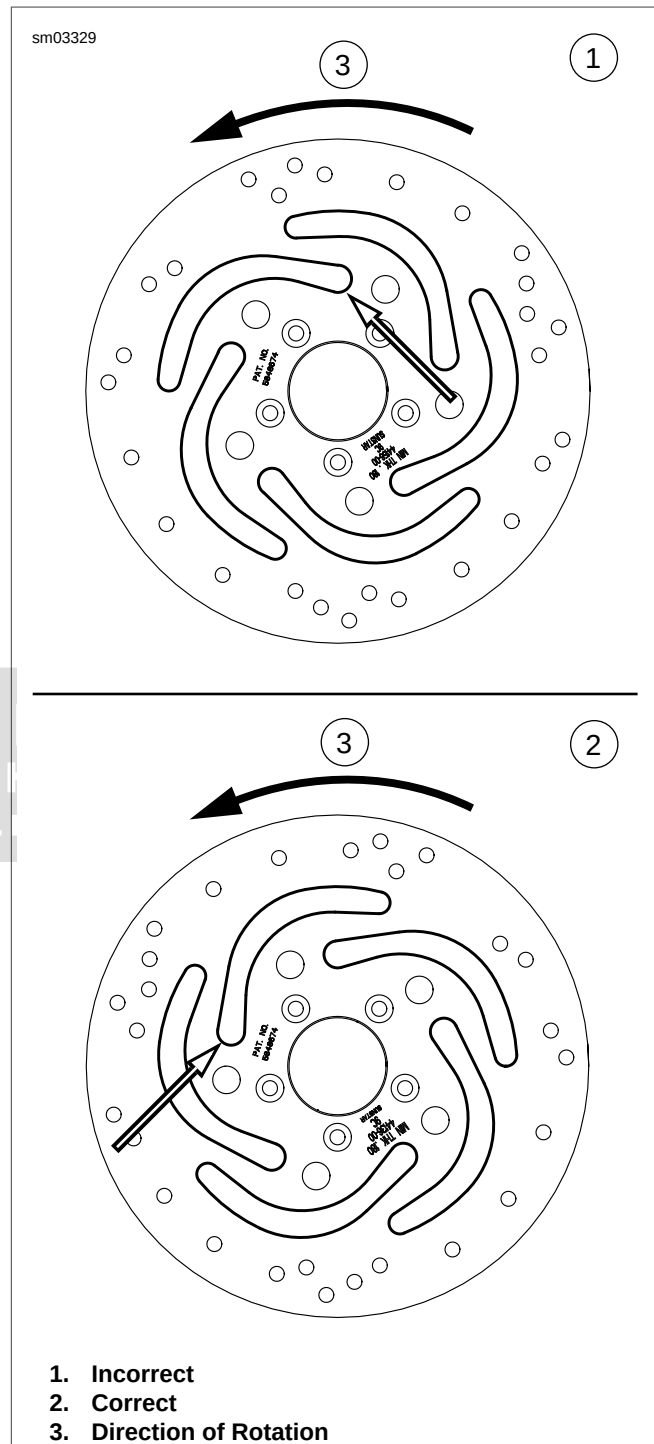

Figure 2-7. Dual Rotor Orientation: XL Models (Left Side Brake Disc Shown)
- a. Install hub plate (8) on left side of wheel. Secure with **new** screws and tighten in an alternating pattern to 16-24 ft-lbs (21.7-32.6 Nm).
- b. Install brake disc (13). Secure with **new** screws and tighten in an alternating pattern to 16-24 ft-lbs (21.7-32.6 Nm).
- b. **XL Models:** See Figure 2-7. Orient brake discs so that bulb shaped end of each slot is on the leading edge of the slot in the direction of rotation, as shown. Note that the words "LEFT" and "RIGHT" will be located on what appears to be the incorrect sides when oriented this way. This is correct per Service Bulletin M-1192A.